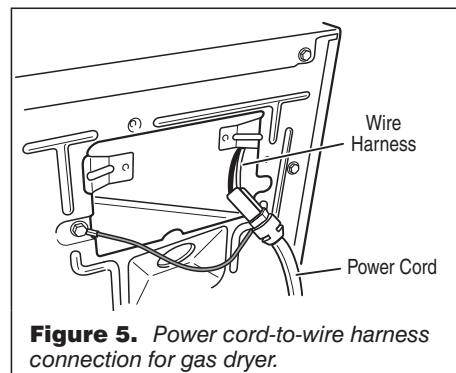
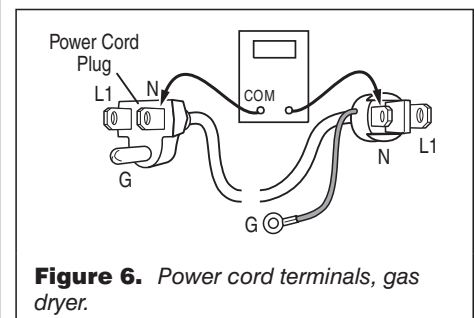

Figure 5. Power cord-to-wire harness connection for gas dryer.
Figure 6. Power cord terminals, gas dryer.
3. Check that the power cord is firmly connected to the dryer's wire harness. See figure 5.
5. With an ohmmeter, check for continuity between the neutral (N) terminal of the plug and P8-3 (white wire) on the machine control board. The left-hand side of figure 6 shows the position of the neutral terminal (N) on the power cord plug. Also see figure 17, page 10.
- If there is no continuity, disconnect the white wire of the harness from the power cord at the location illustrated in figure 5. Test the continuity of the power cord neutral wire as illustrated in figure 6. If an open circuit is found, replace the power cord. Otherwise, go to step 6.
- If there is no continuity, check the continuity of the power cord in a similar way to that illustrated in figure 6, but for power cord's L1 wire.